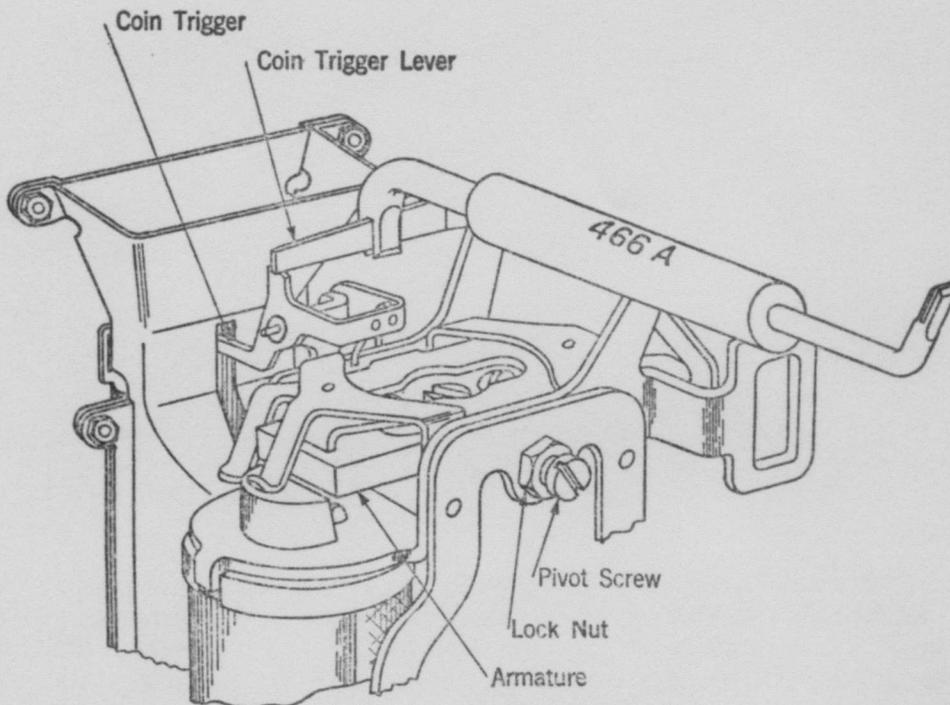

Fig. 16
- (a) Place the No. 466A tool on the arm of the coin trigger lever as shown on Fig. 16 and adjust lever so that requirement is met.